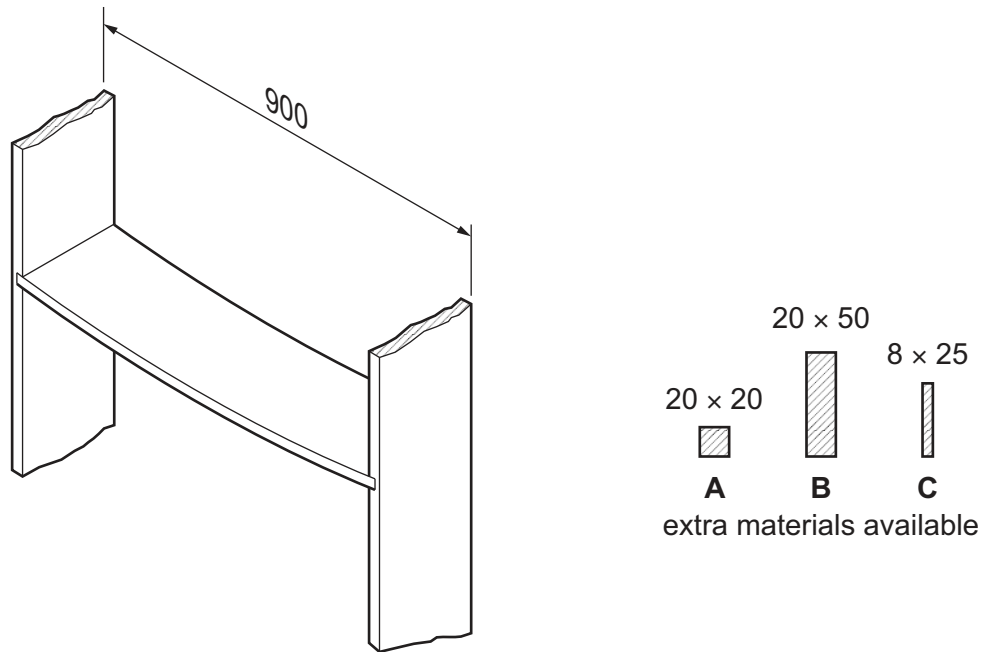

Fig. 9.4
- (iii) Fig. 9.4 shows a softwood shelf with a bend along its length caused by excessive load in the centre.